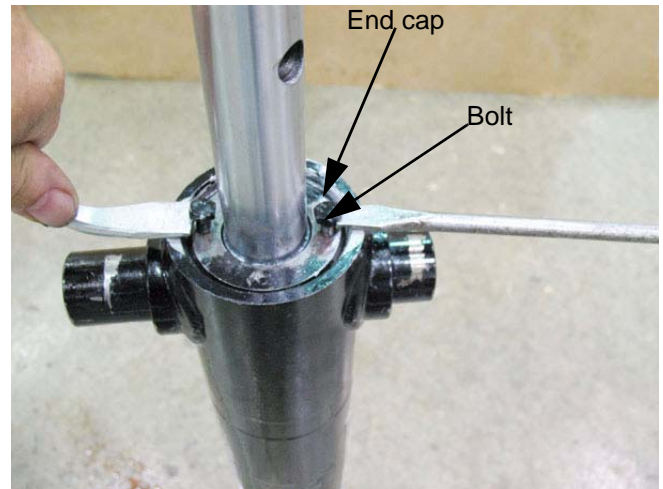

Figure 5.34
- 3.33. Pull the shaft and piston up to the top of the bore, so that the piston moves the end cap back into place against the snap ring. See Figure 5.34.